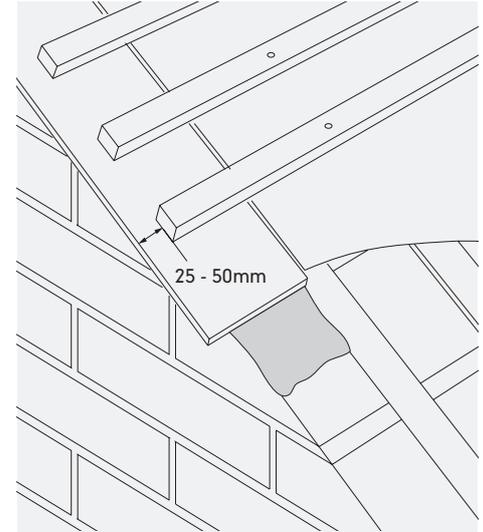

Fig. 14 – Fibre cement undercloak fitted over tiling batten
- 2 Place undercloak below battens, overhanging by maximum of 50mm for plain tiles, and 60mm for single-lap tiles (Fig. 14).